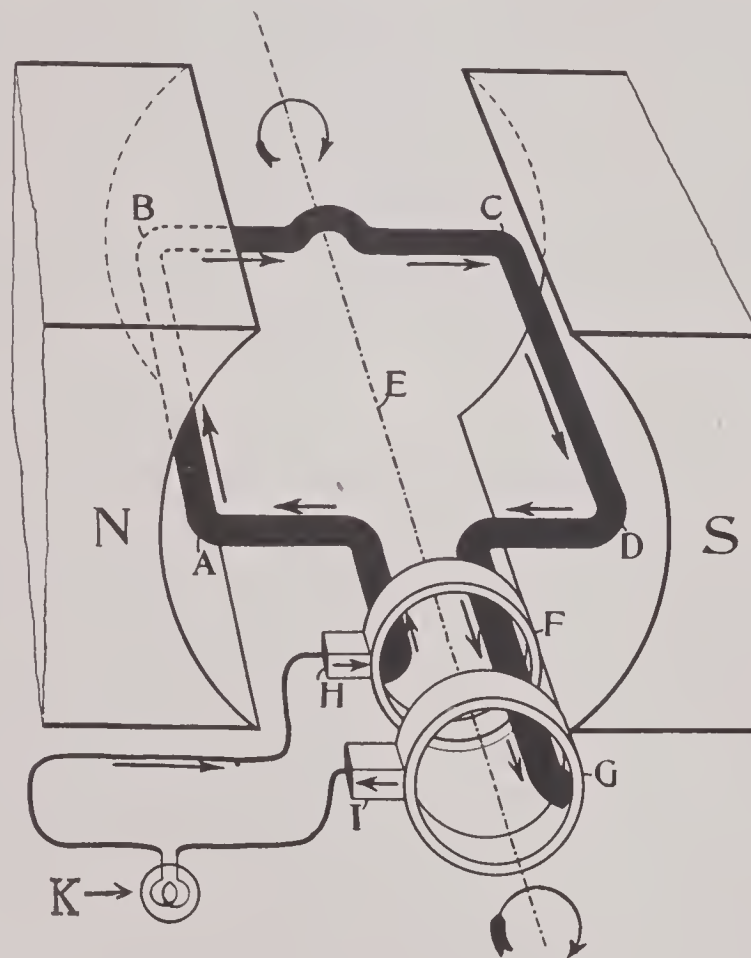

FIG. 248
The fundamental principle of the magneto can be obtained from Fig. 248. The rings and brushes form slipping connections to the ends of the loop, so that the loop can be revolved in the field, and still have a connection to the lamp (K). As the loop revolves past the position shown, it is cutting the magnetic lines of force and an E. M. F. is induced in it, which
As the core is revolved, the sides of the coil cut the magnetic lines of force set up by the magnets and an E. M. F. is induced in the coil. Because of the shape of the core and the pole shoes, the E. M. F. in the coil does not build up as gradually as in the loop revolving in the magnetic field shown in Fig. 248, but builds up in quick strong impulses, lasting for only about a twelfth of a turn. The illustrations (A), (B), (C), (D) and (E) in Fig. 249 show the path of the magnetic lines of force with the core in various positions.